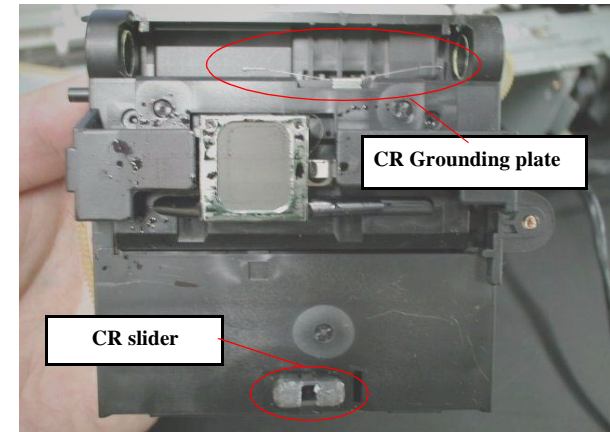

Figure 4-52. Grounding plate assembling position
- If you disassemble the CR unit after removing the CR unit from the printer, make sure that the CR Grounding plate is assembled in the suitable position in the CR unit. Refer to Figure 4-52.